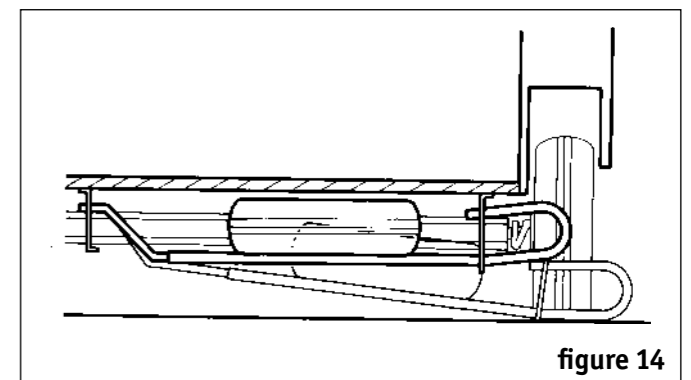

figure 14
- Pull the reserve wheel holder (fig. 14) toward you and down (dependent on the version).